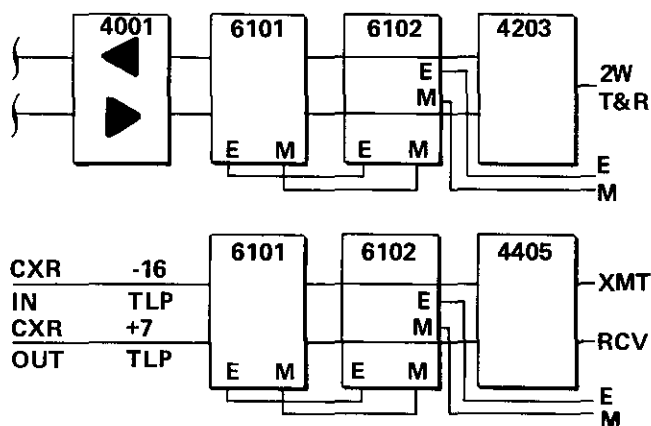

figure 2. Typical 6102 application with 6101 SF Transceiver
2.05 The 6102 is often used in a Tellabs 260 or 261 Signaling and Terminating System, where it functions in conjunction with either a 6101 SF Transceiver or a 6001 or 6002 DX Signaling module. (Within the 260 and 261 universal wiring schemes, SF and DX signaling may be used interchangeably. The 6102 is interchangeable with other Tellabs Signaling Converter modules [e.g., the 6103, 6104, 6105, and 6106] in universally wired 260 or 261 Systems.) The 260 and 261 Systems commonly include a Line Amplifier on the facility side and a Term Set or Repeat Coil on the equipment side. When carrier is interfaced on the facility side, a Line Amp is not required. Typical applications of the 6102 are shown in figure 2.